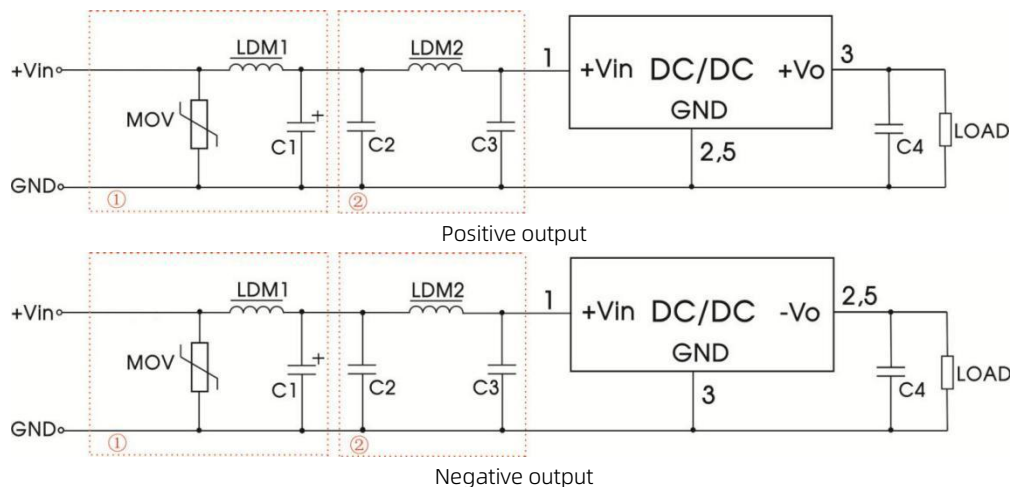

Fig.3 Recommended compliance circuit
Notes: For EMC tests we use Part ① in Fig.3 for immunity and part ② for emissions test. Selecting based on needs.